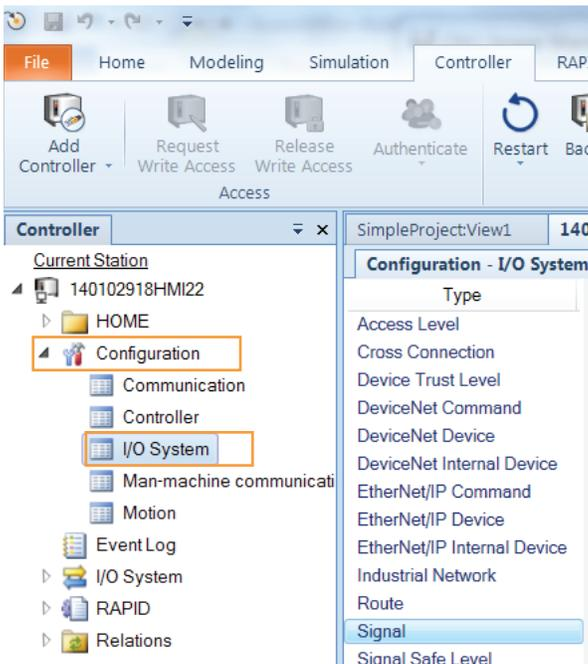

Figure 1.a- Open the signal configuration in Robot Studio
6. Click the **Controller** tab and then expand **Configuration** in the Controller tree as shown in Figure 1.a, and then double click **I/O System** to open the Configuration-I/O System tab. Next, select the **Signal** category to open the EIO configuration editor. See Figure 1.b.